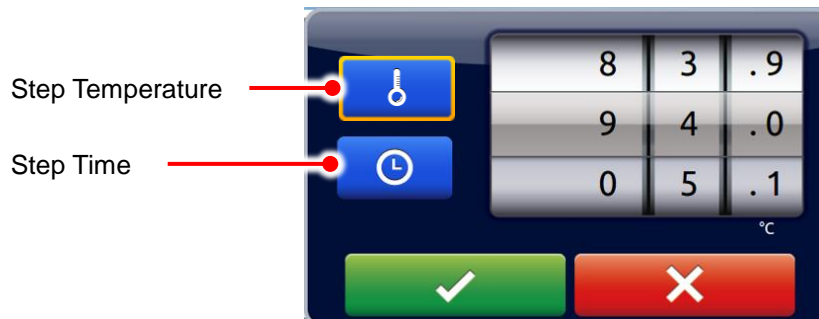

Figure 12. Temperature/Time setting
1. To select the **Step**, tap on the step segment. The selected **Step** will be highlighted and the **Step Temperature and Time**  will be displayed. Tap on  and a spinning wheel will pop up as shown in Figure 12, allowing you to modify the **Step Temperature** or **Step Time**.